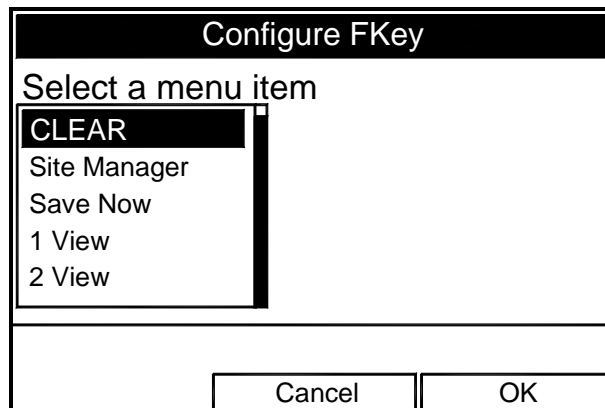

Figure 4-9: Configure FKey Window
- Use the [▼] or [▲] arrow keys to move to the desired FKKey (1, 2 or 3) entry on the menu. Press [ENTER]. The Configure FKKey window opens, as shown in Figure 4-9 on page 4-9.